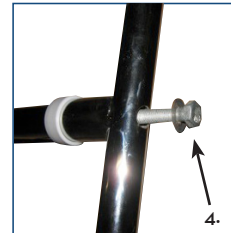

figure 4
4. Insert the bolt with washer through the bottom of the base and hand tighten into the lower post. (figure 4)